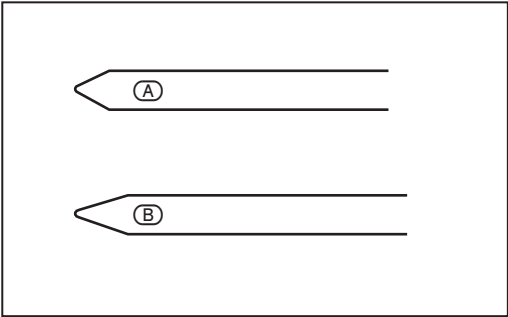

FIG. 4
8.4 TIG WELDER, TUNGSTEN ELECTRODES - SELECTION & PREPARATION – FIG. 4